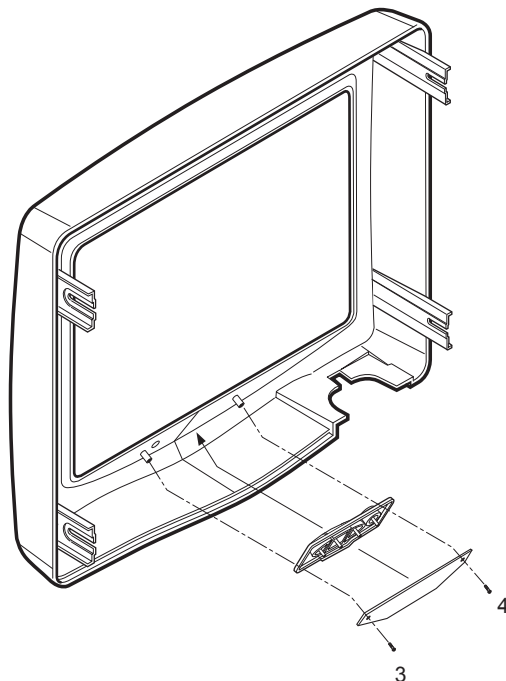

Figure 8-12 Removing Monitor S/W Assy
- 4.) Remove the Monitor S/W Assy. Refer to Figure 8-12 on page 8-9 .